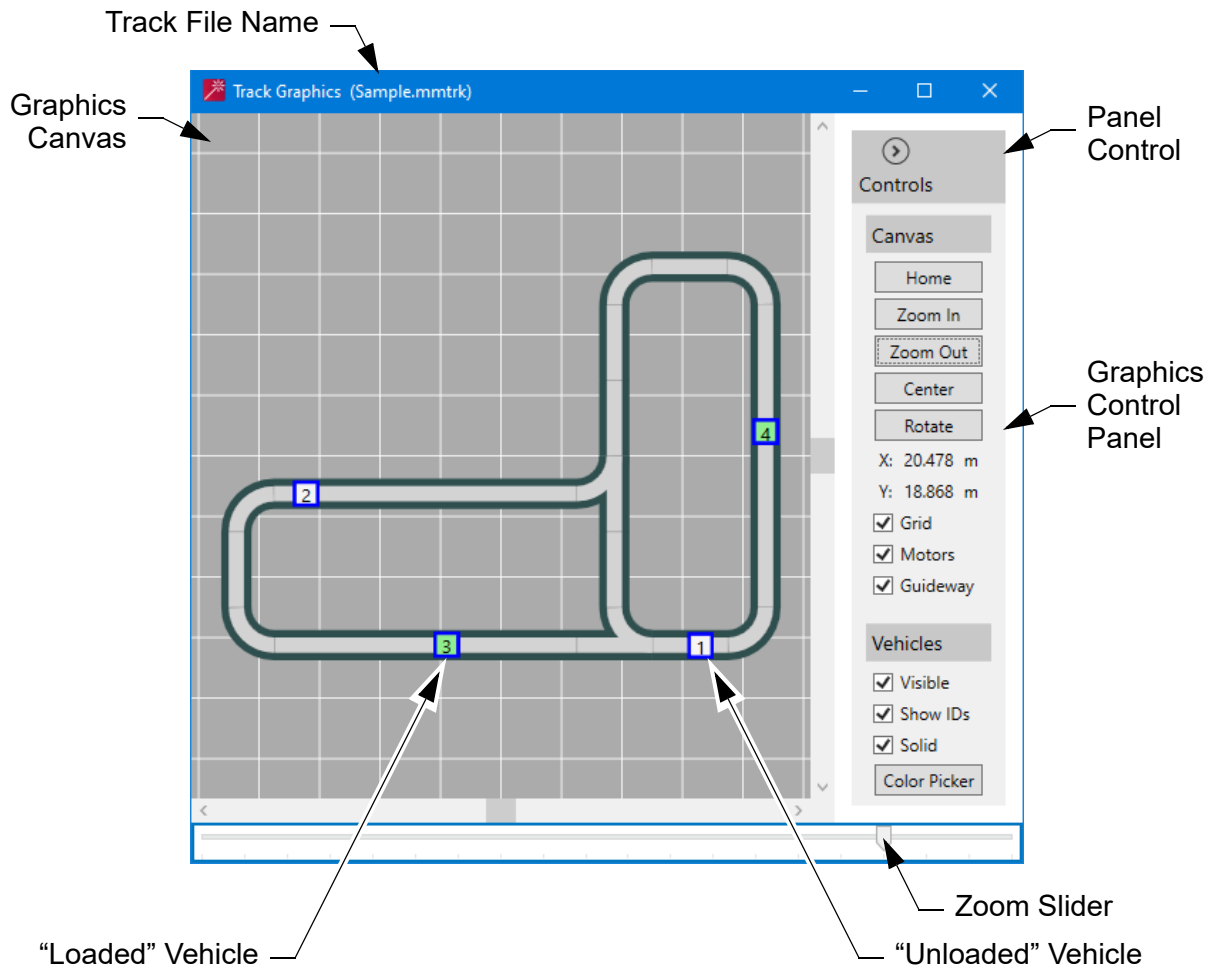

Figure 4-15: Track Graphics Window
- **Browse** – Select to open a dialog box for the selection of a track file (*track_file.mmtrk*). Once selected, the **Track Graphics** window opens (see Figure 4-15) and displays the loaded track configuration.
- **Track Graphics** – Opens the Track Graphics window (see Figure 4-15, Track Graphics Window) to display a graphic of the transport system layout as defined in the currently loaded Track File.